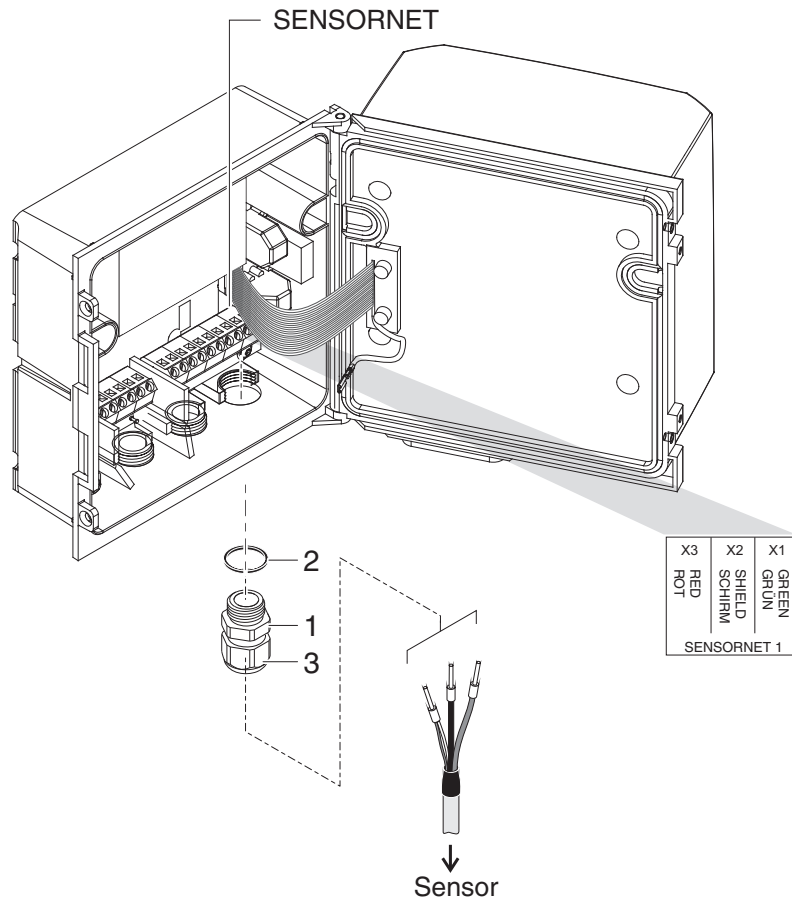

figure 3-1 Connecting the cable (example DIQ/S 281CR2)
- 2 Screw the cable gland (no. 029 212, pos. 1 in figure 3-1) with the sealing (pos. 2) into the housing at the mounting position for the SENSORNET connection (see label on the bottom of the housing)
- 3 Loosen the cap nut (pos. 3 in figure 3-1).
- 6 Tighten the cap nut (pos. 3 in figure 3-1).